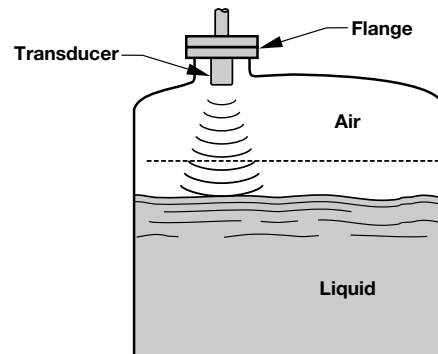

Figure 10
1. Position transducer over the tank port. Bolt the transducer flange to the tank port flange. Refer to Figure 10.